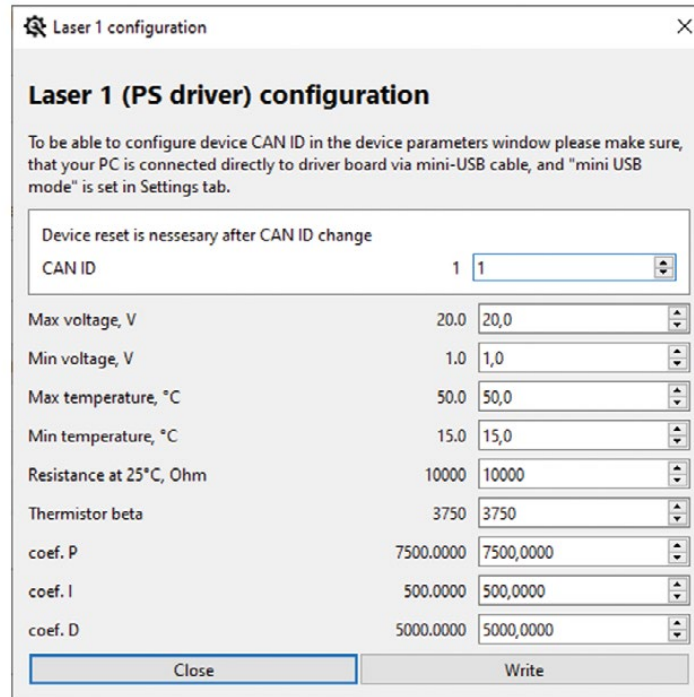

Figure 2: The laser diode setting menu
11. Click icon located in the control panel's upper right corner to enter the driver setting mode. The driver setting mode allows entering laser diode parameters and the permitted range of laser operating conditions (fig. 2).
The user can access the laser diode settings menu by pressing the wrench icon in the expanded main control view. The wrench icon will open a new individual menu for the connected laser diode, and the software applies the new settings only to that single diode. The user can set CAN ID of the driver, the allowed ranges for the operation voltage and temperature, the values of thermistor resistance at 25 0C and beta parameter and the coefficients of the PID controller of the TEC. Available settings for picosecond drivers are shown in Figure 2. The middle column shows the current value of the parameters. To change the parameter value, enter each parameter in the settings window or change by up and down arrows and click “Write” to apply the value.